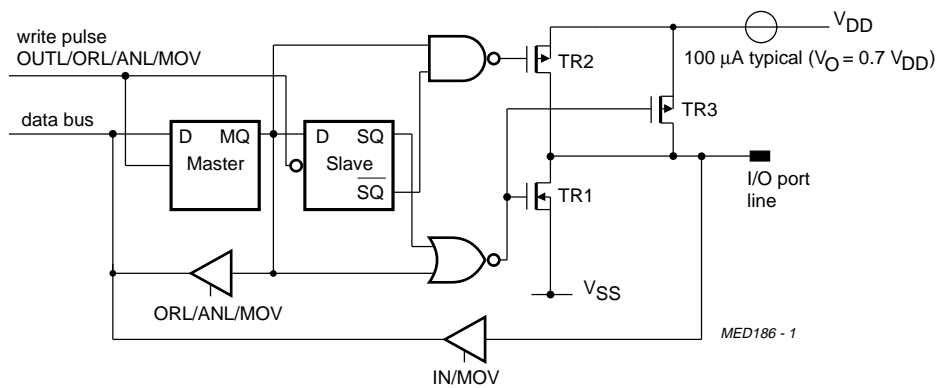

Fig.47 Standard output with switched pull-up current source (Option 1).
There are 3 different port options available for the port pins in the 84CXXX derivatives (see Figs 47, 48 and 49).
- Option 1 Standard input/output with switched pull-up current source; this is shown in Fig.47.
For the port options (1, 2 and 3) see Figs 47, 48 and 49.